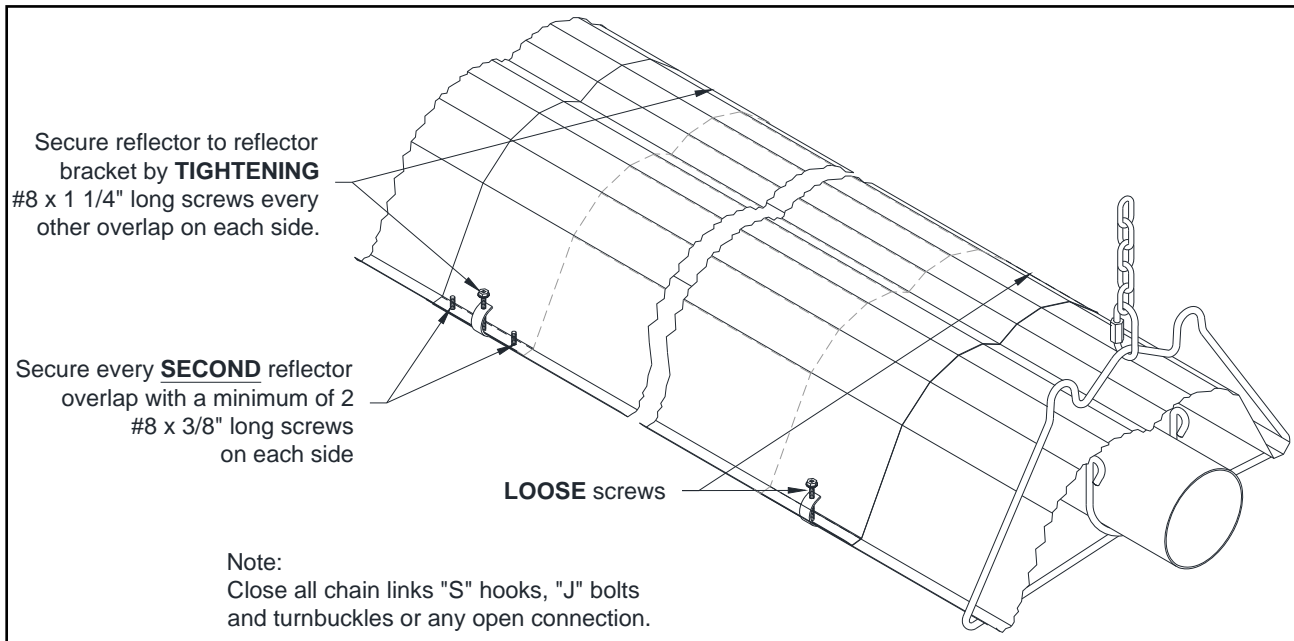

Figure 16: Reflector Supports Installation and Reflector Overlap
- Secure every second reflector overlap together with a minimum of 2 - #8 x 3/8" inch long screws (not supplied), and secure reflector to the reflector bracket at this point by tightening down #8 x 1 1/4" screws supplied with reflector brackets (Figure 16). The remaining reflector overlap joints and reflector brackets are left loose to accommodate system movement.